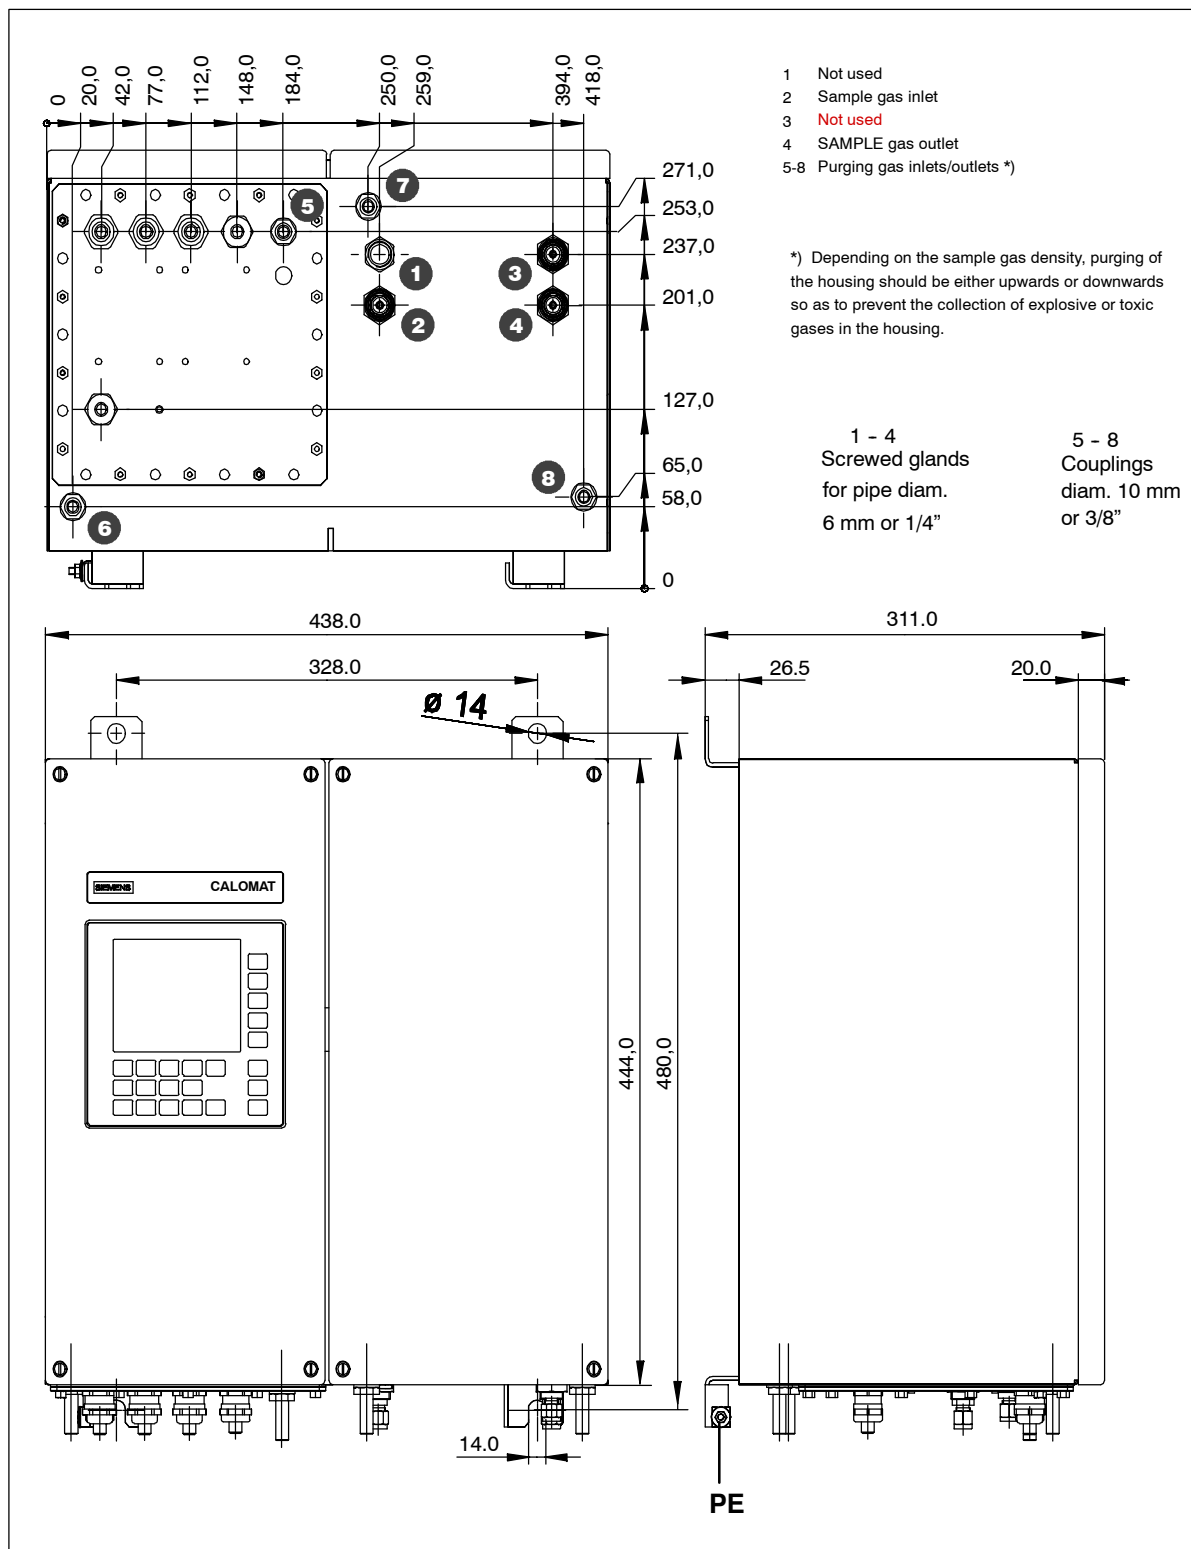

Fig. 2-10 Installation dimensions (rear view, front view and side view, **CALOMAT 6F**)
- The analyzer is supplied with an appliance plug which may only be connected to the power supply by qualified personnel (see Section 1.5). The power supply cable must include a protective earth conductor which must be connected to the chassis potential. The cross-section of the conductors must be $\geq 1 \text{ mm}^2$. The phase conductor must be connected to the identified position (L).
- Equipotential bonding must be provided on the housing of the **CALOMAT 6F** at the envisaged position (PE, Fig. 2-10).
- In the wall mount analyzer (**CALOMAT 6F**), the signal cables are connected using the terminal blocks A and B (option). These are located on the flange plate on the base of the left side of the housing (see also Fig. 2-10).